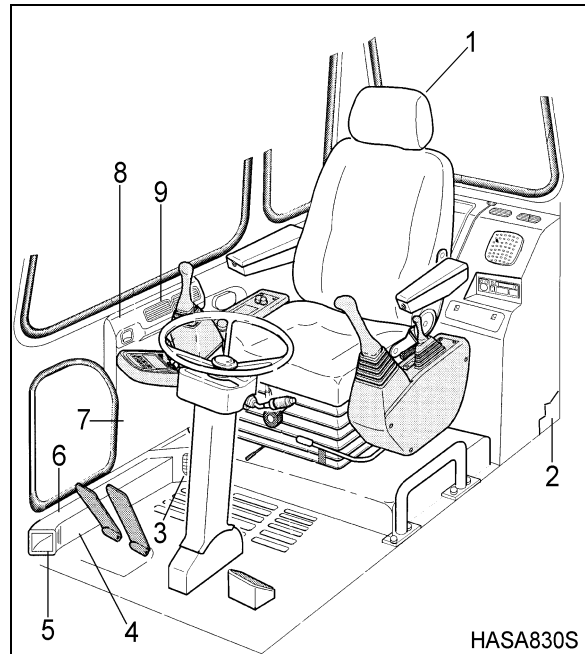

Figure 2
9. Remove operator's seat (1, Figure 2).
10. Remove duct covers (5, 6, 7 and 9, Figure 2). When removing duct cover (7), disconnect hour meter connector.
11. Remove air duct (3, 4 and 8, Figure 2) located at right side of cab. Disconnect duct wiring connector before removing air duct (3).
16. Disconnect cabin ground cable (2, Figure 2).